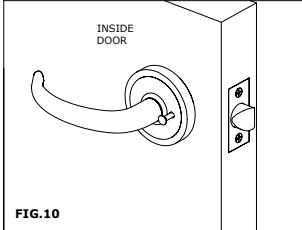

FIG. 10
STEP 9) THE SET PROPERLY INSTALLED SHOULD CORRESPOND TO FIGURE 10.